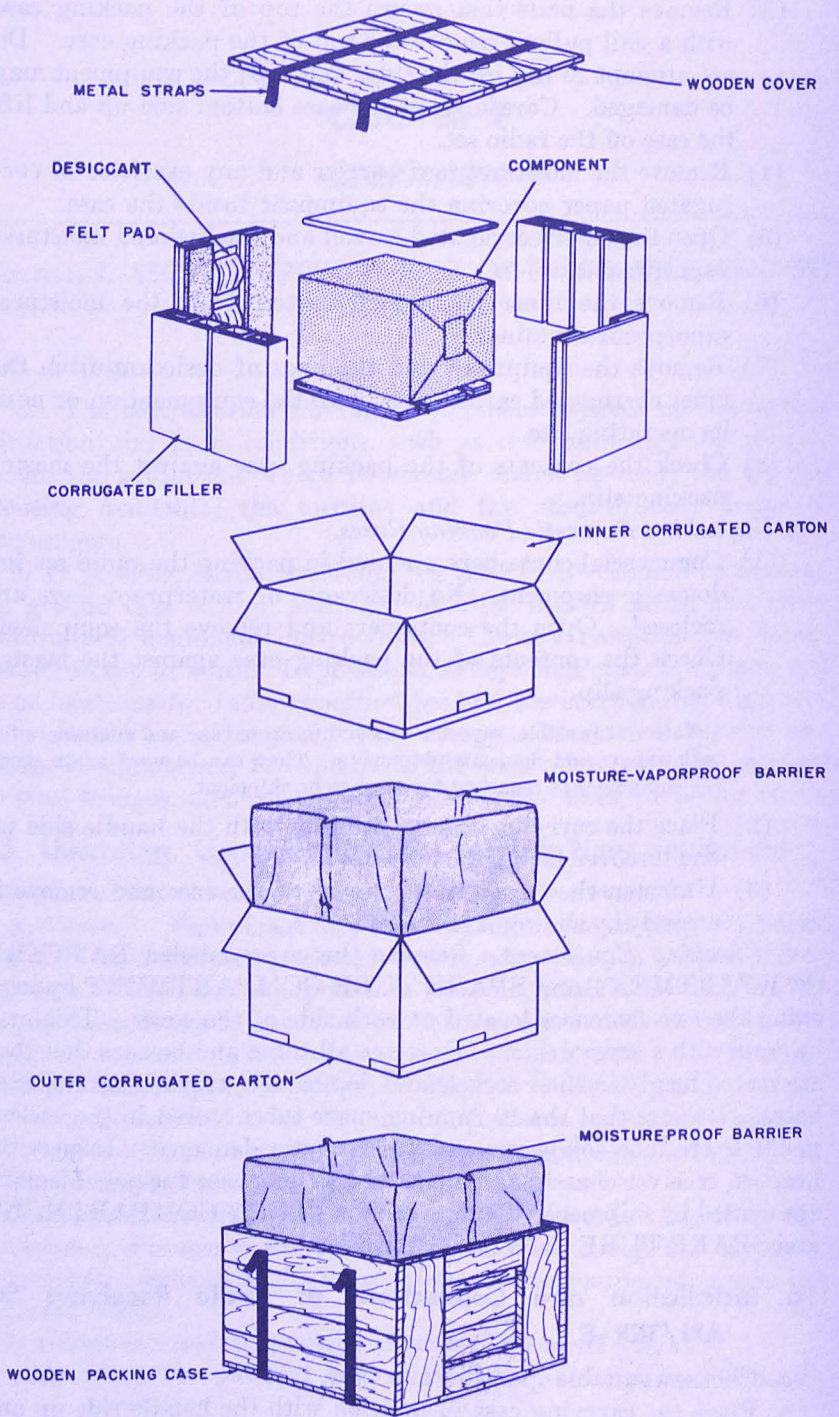

Figure 4. Packing and packaging of Radio Receiving Set AN/TRR-8.
a. When packed for export shipment, the radio set is placed in a moisture-vaporproof container and packed in a wooden export crate that is 15 inches high by 26 inches wide by 11 inches deep. A cutaway view of an equipment packed for export is shown in figure 4. The volume of the crate is 2.5 cubic feet. The total weight of the crated radio set is 30 pounds.
b. *Uncrating and Unpacking Export Shipments* (fig. 4).
- (1) Place the packing case as near the installation site as is convenient.
- (2) Cut and fold back the steel straps.
- (3) Remove the nails that secure the top of the packing case with a nail puller; remove the top of the packing case. Do not attempt to pry off the sides and top; the equipment may be damaged. Carefully set the case bottom side up and lift the case off the radio set.
- (4) Remove the moistureproof barrier and any excelsior or corrugated paper covering the equipment inside the case.
- (5) Open the outer corrugated carton and the inclosed moisture-vaporproof barrier.
- (6) Remove the inner corrugated carton from the moisture-vaporproof container.
- (7) Remove the equipment and the bags of desiccant from the inner corrugated carton, and place the equipment on or near its operating site.
- (8) Check the contents of the packing case against the master packing slip.